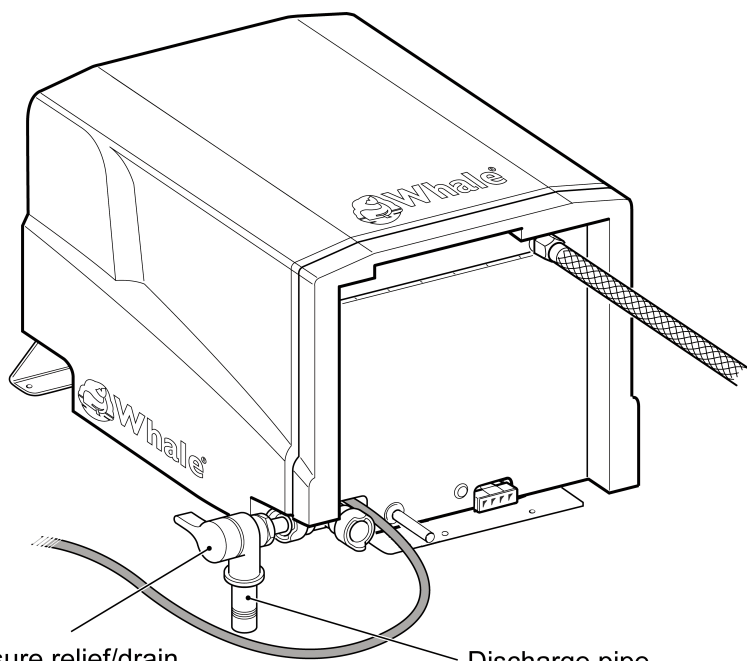

Fig. 14
Step 6 Fitting the drain pipes (see Fig. 14)